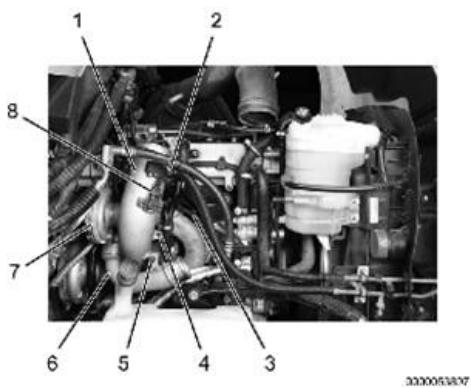

Figure 2. HP and LP Turbocharger Connections
7. If equipped, disconnect Mass Air Flow (MAF) sensor connector (Figure 2, Item 2).
8. Disconnect Turbocharger 2 Compressor Inlet Pressure (TC2CIP) sensor connector (Figure 2, Item 3).
9. Disconnect Air Inlet Temperature (AIT) sensor connector (Figure 2, Item 8) and position engine harness aside.
10. Remove two HP turbocharger outlet duct bolts (Figure 2, Item 5) and HP turbocharger outlet duct (Figure 2, Item 6) from HP turbocharger (Figure 2, Item 7).
11. Remove two LP turbocharger inlet duct bolts (Figure 2, Item 4) and LP turbocharger inlet duct (Figure 2, Item 1) from LP turbocharger.